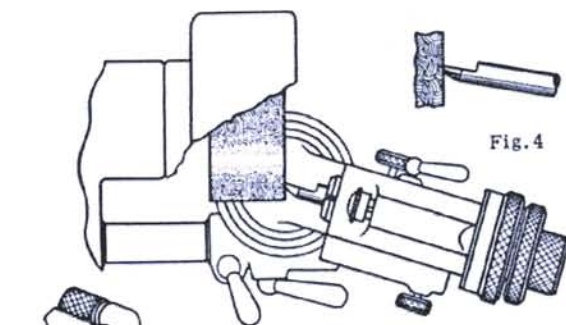

Fig. 4
3. Release clamping levers K3 and K4; hold scale T4 against its stop and, beginning at the 90° position, set swivel arm at the desired angle; for example, where an angle of 10° is desired, the swivel arm will have to be set at 80°. Tighten clamping levers K3 and K4, see Fig. 4.